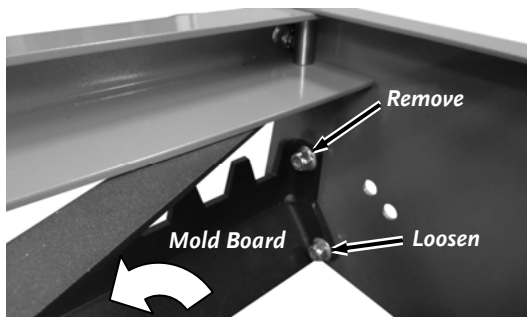

Figure 11
7. Remove the top Bolt and Locknut that is securing the Mold Board using two 9/16" Wrenches (**Figure 11**).